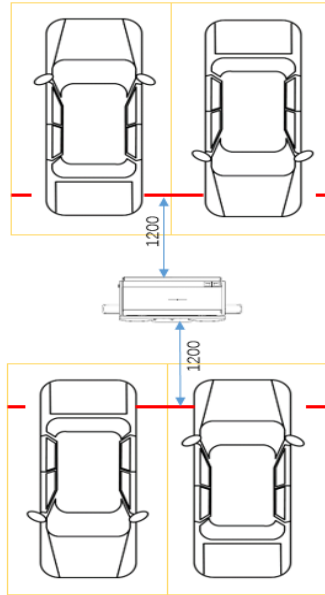

Figure 4 Parking distance requirements
When the charging station is installed in the middle of a parking space or back-to-back parking spaces, it is recommended to leave a space of 1200mm between the car wheel block and the charging station to facilitate the use of the charging pile, as shown in Figure 4:
- (1) Pay attention to the correction level when pouring the foundation.
- (2) The foundation installation is higher than the ground level, and necessary maintenance passages are reserved on site depending on the specific space.
- (3) The drainage outlet on the foundation surface is slightly inclined to avoid water accumulation.
- (4) The foundation is filled with C25 concrete.
- (5) On the basis, reserve a wire outlet hole with a diameter of not less than 60mm, and adjust it according to the actual wire diameter. As shown in Figure 4.
- (6) After the foundation is completed, use a level to test the flatness.
- (7) Four M12 screw rods are used for fixed pre-embedding, which are pre-embedded into the interior of the concrete foundation according to the positioning of the drawing, and 30-40mm threads on the upper surface of the concrete foundation are exposed.